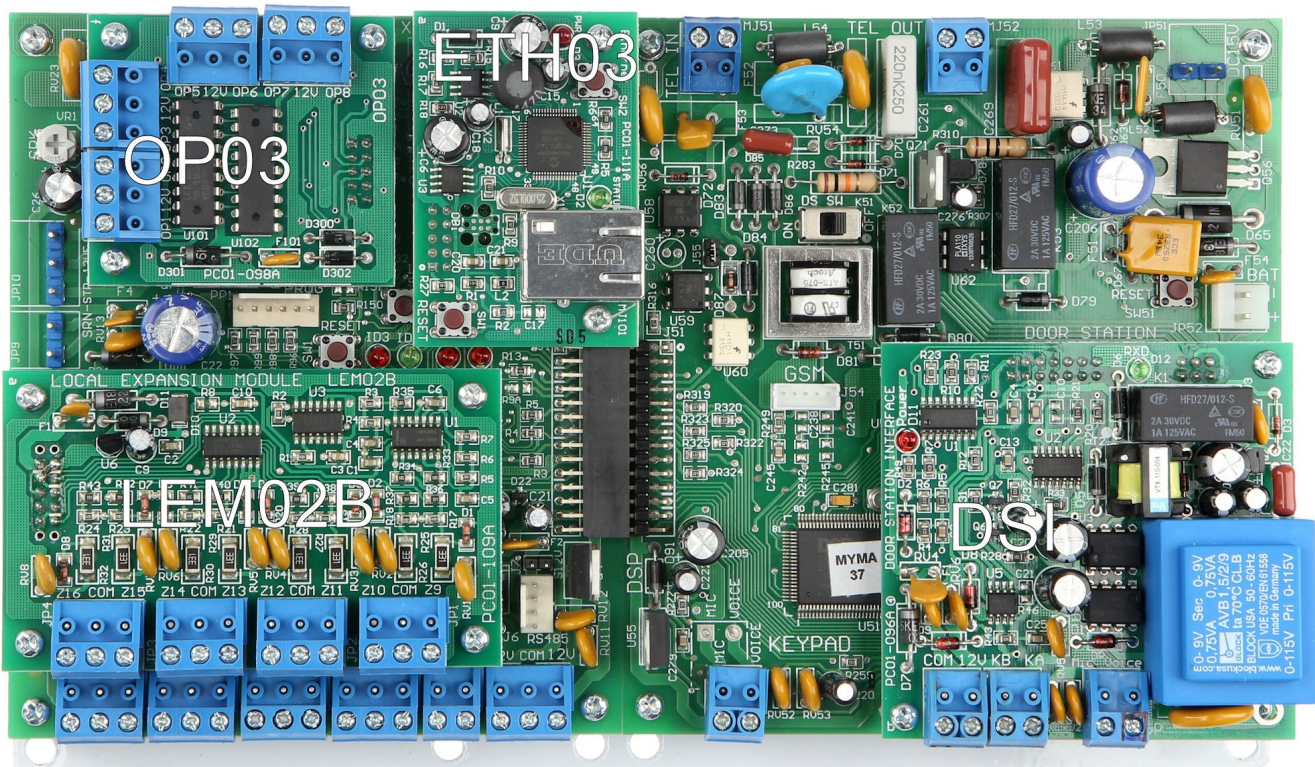

Figure 2 – Submodules Mounting Location
- 2 Mount the LEM02B Local Expansion Module and ETH03 Submodule (if required) on the CM9001 PCB See Figure 2 for mounting position of CM9001.